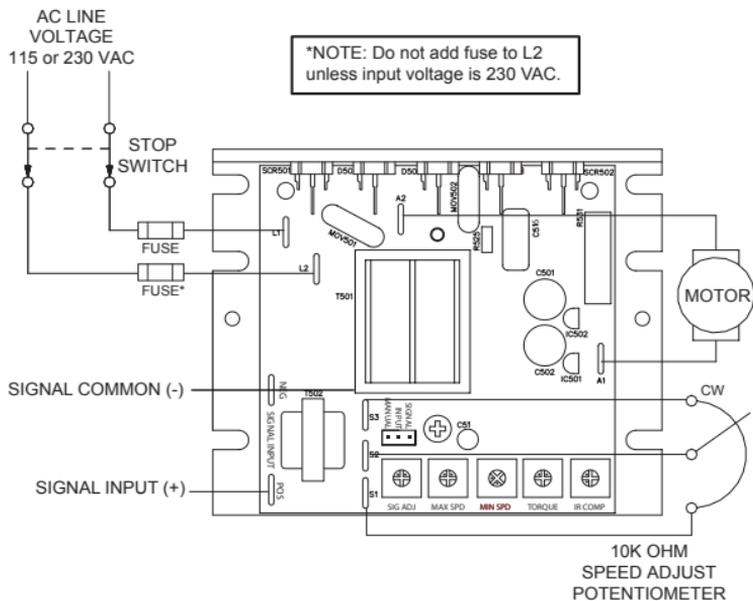

Figure 4. Connections
**American Control Electronics strongly recommends the installation of a master power switch in the voltage input line, as shown in Figure 4 (page 12).** The switch contacts should be rated at a minimum of 200% of motor nameplate current and 250 volts.
Connect the AC line power leads to terminals L1 and L2. American Control Electronics recommends the use of a single-throw, double-pole master power switch. The switch should be rated at a minimum of 250 volts and 200% of motor current. Refer to Figure 4 on page 12.
Connect a DC motor to terminals A1 and A2 as shown in Figure 4 on page 12. Ensure that the motor voltage rating is consistent with the drive's output voltage.
Use a 10K ohm, 1/4 W potentiometer for speed control. Connect the counter-clockwise end of the potentiometer to S1, the wiper to S2, and the clockwise end to S3. If the potentiometer works inversely of the desired functionality (e.g. to increase motor speed you must turn the potentiometer counterclockwise), power off the drive and swap the S1 and S3 connections. Refer to Figure 4 on page 12.
Instead of using a speed adjust potentiometer, the drive may be wired to follow an analog input voltage signal that is either isolated or non-isolated from earth ground (Figure 4 on page 12). Connect the signal common (–) to NEG. Connect the signal reference (+) to POS. A potentiometer can be used to scale the analog input voltage. An interface device, such as American Control Electronics model ISO202-1, may be used to scale an analog input voltage.
For this reason, American Control Electronics strongly recommends installing an emergency stop switch on both AC line inputs (see Figure 4 on page 12).